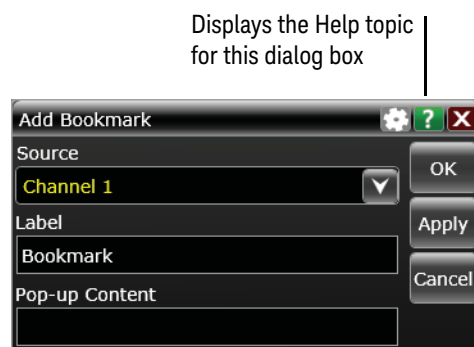

Figure 21 Help button for dialog box Help
- Click the question mark near the top right corner of a dialog box to open the help topic for that dialog box (**Figure 21**).